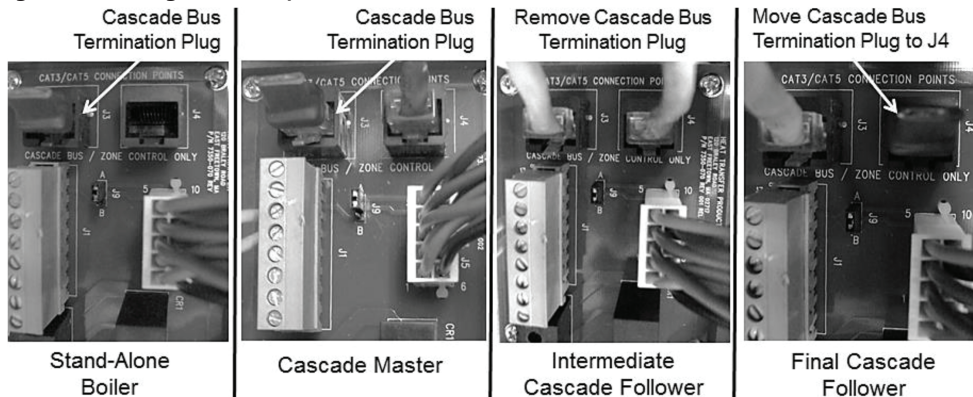

Figure 25 - Cascade Termination Plug Detail
1. A Cascade Bus Termination Plug has been installed on the customer connection board of this boiler. The purpose of this plug is to stabilize communication between multiple boilers and reduce electrical "noise". See Figures 25 and 26 for Cascade Bus Termination Plug installation detail.
**NOTE:** It is important that the termination plug in multiple boilers (cascaded units) be installed as depicted in Figure 25. Leave the plug installed in the J3 port on the Master boiler. Remove the plug on intermediate Follower boilers. Move the plug to the J4 port on the final Follower boiler.